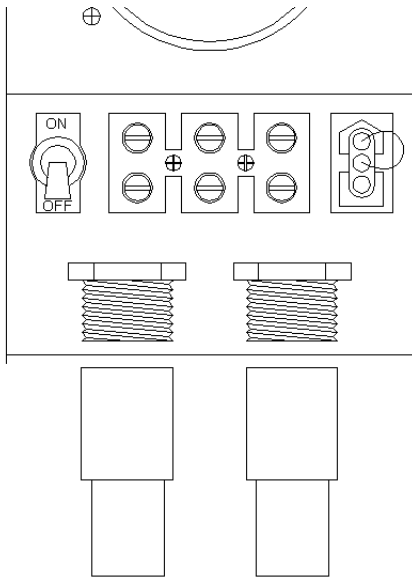

Fig 4
3. Insert the nut of tube into the hole on the internal of transformer. (Fig 4)